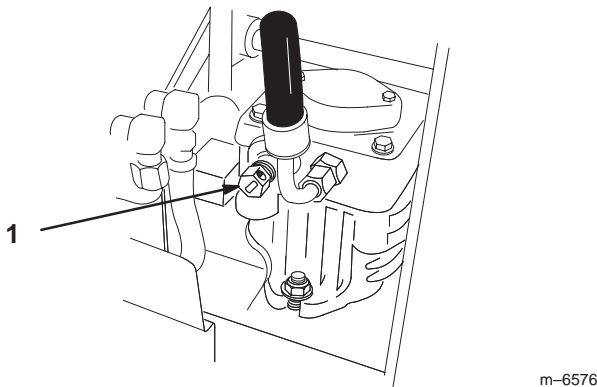

Figure 17
3. Open the by-pass valves, by turning them counter clockwise 1 to 2 turns, to push the machine. This allows hydraulic fluid to by-pass the pump and the wheels to turn (Fig. 17).